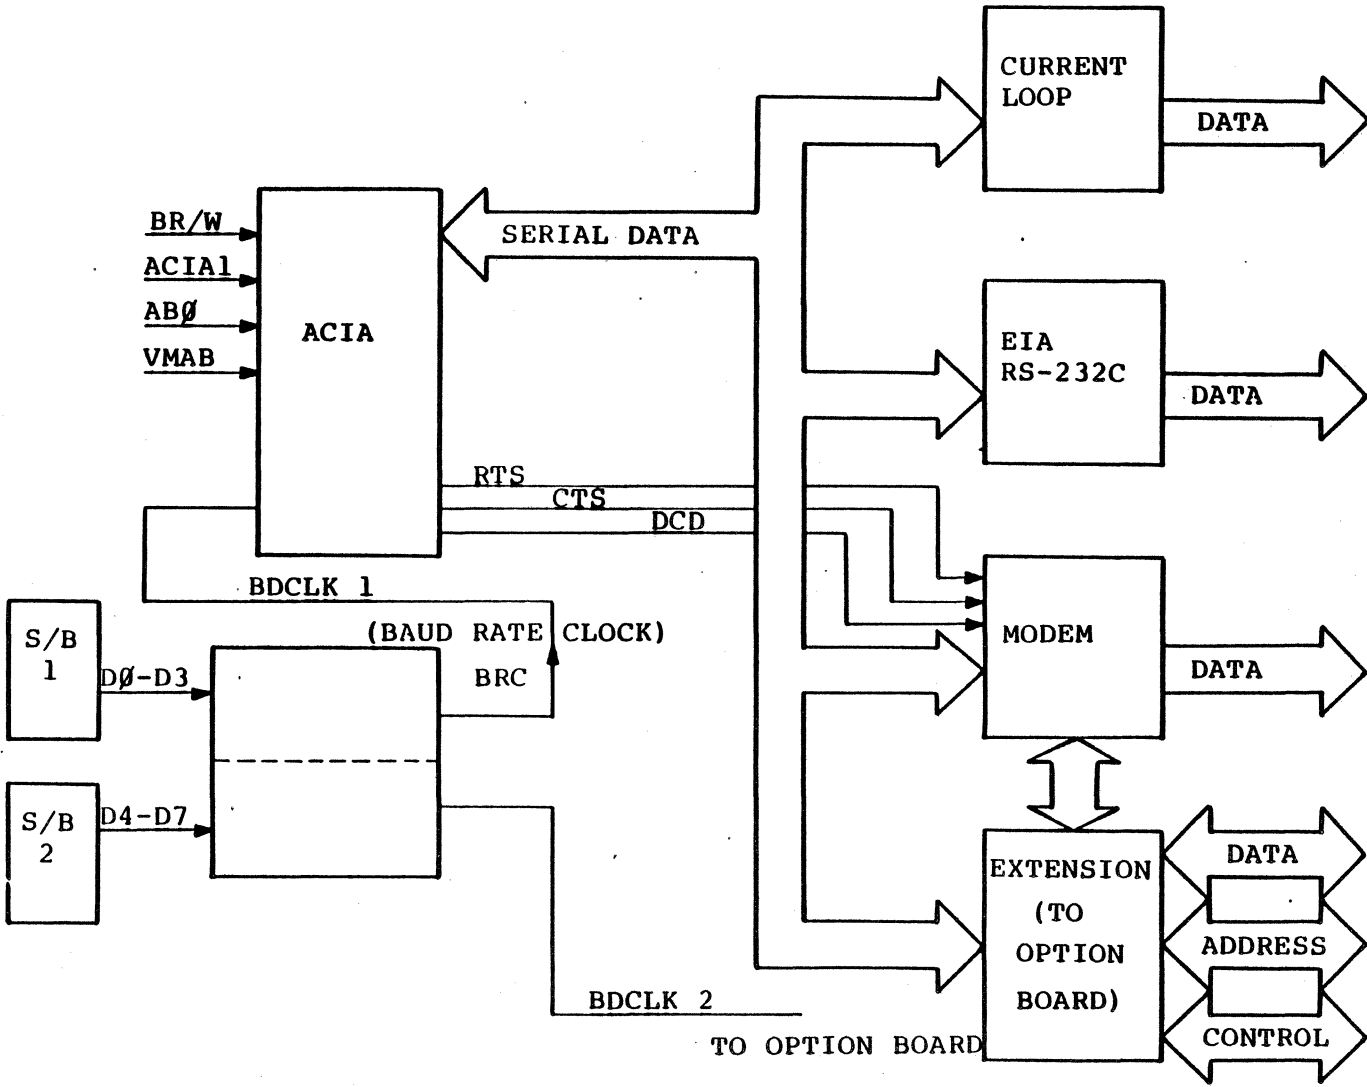

Figure 6-6. External Interface Section Block Diagram
6.3.2 External Interface Section (Figure 6-6; Schematic Sheet 9)